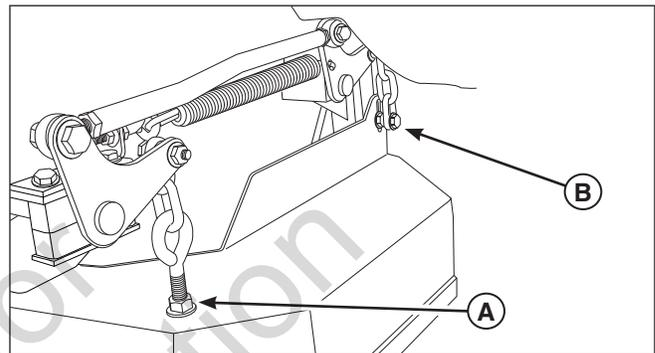

Figure 41. Hanger Chain Adjustment
4. Adjust the front eyebolts until the chains are tight and the deck is still resting on the 2 X 4's. Tighten the jam nuts. See Figure 41.
5. Loosen the nuts and allow the rear of the deck to rest on the 2 X 4's and 1/4" spacers. Slide the chains down in the slots until the chains are tight and tighten the nuts. See Figure 41.